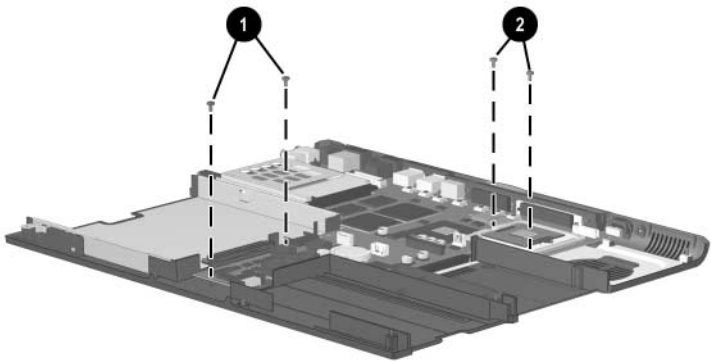

Figure 5-34. Removing the System Board Screws
5. Remove the two PM2.0 \times 5.5 screws ❶ that secure the system board to the base enclosure on either side of the MultiBay connector (Figure 5-34).
6. Remove the two PM2.0 \times 8.0 screws ❷ that secure the system board to the base enclosure through the processor support bracket.